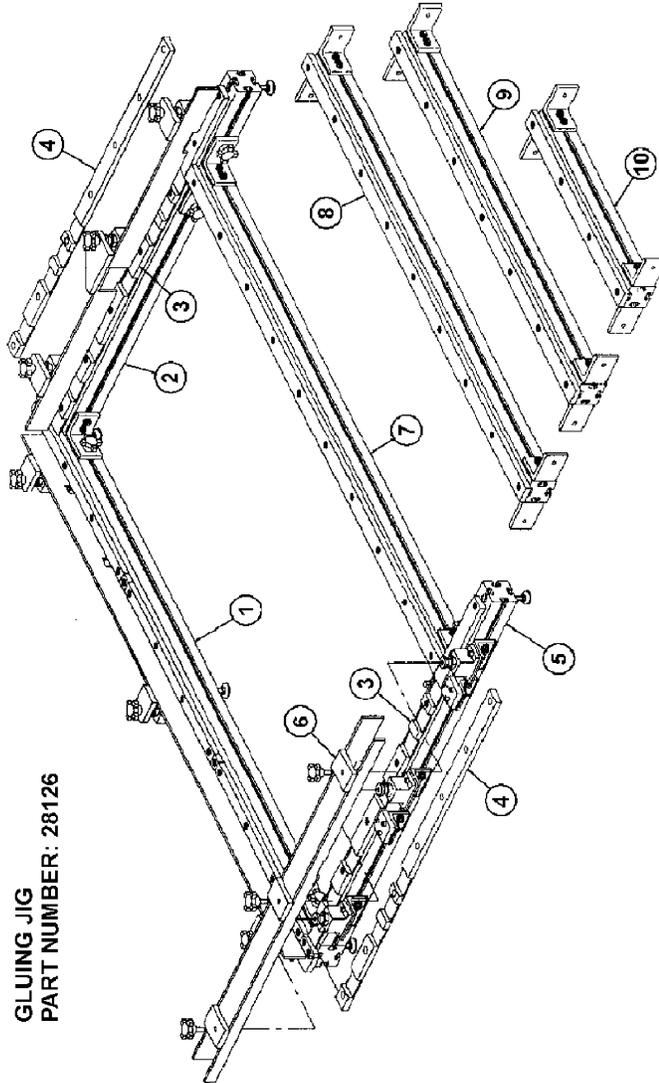

FIGURE 14: GLUING JIG SETUP DIAGRAM
- For more information, refer to gluing jig setup diagram (Fig. 14).